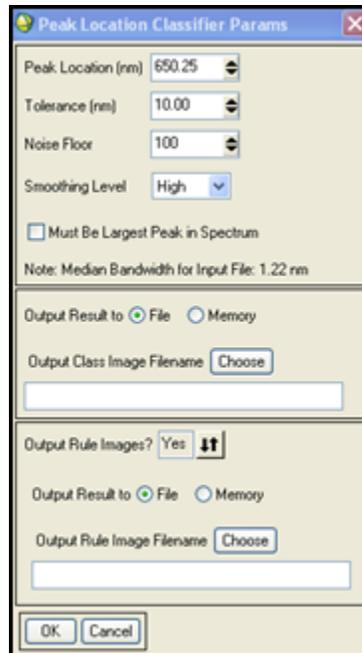

Figure 12c. Peak Location Classifier Params dialog
- The Peak Location Classifier Params dialog opens (Figure 12c). Here you will enter several parameter values that are used to decide how to process the image.